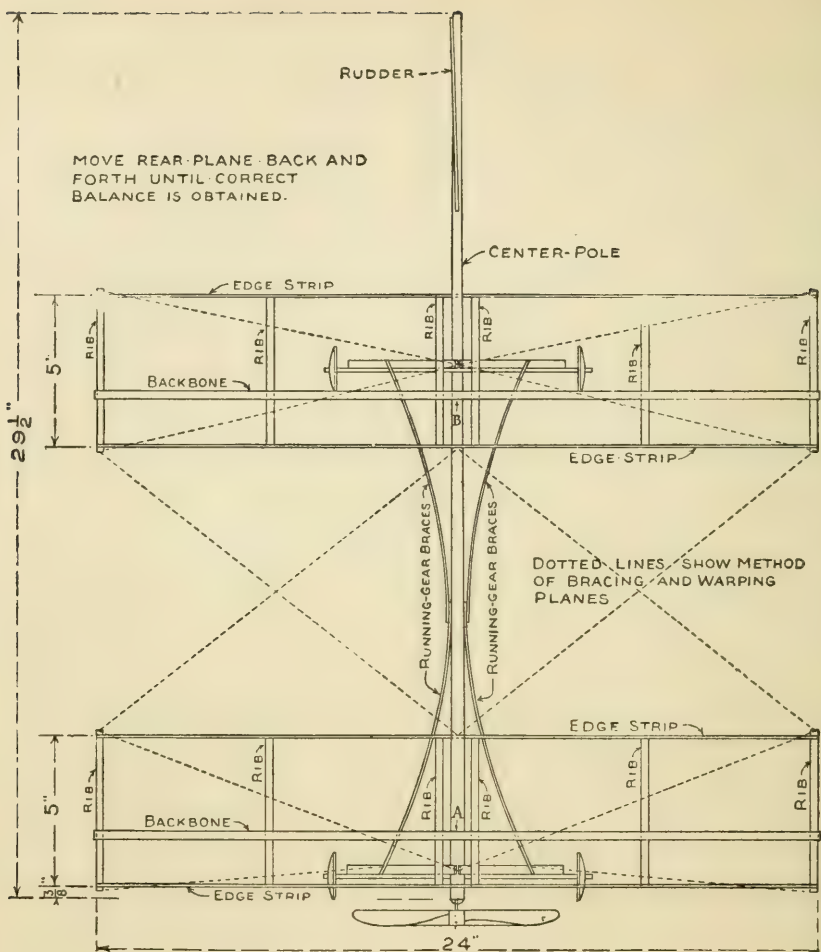
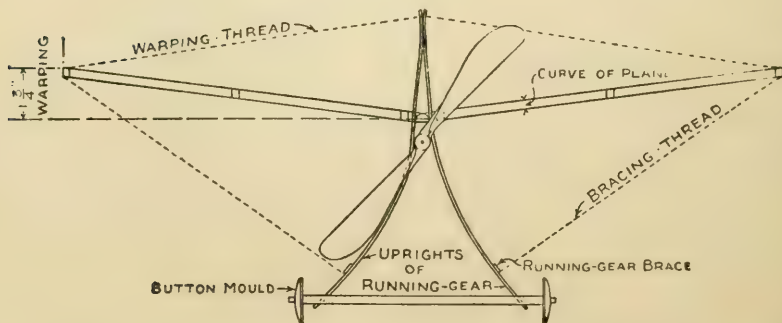
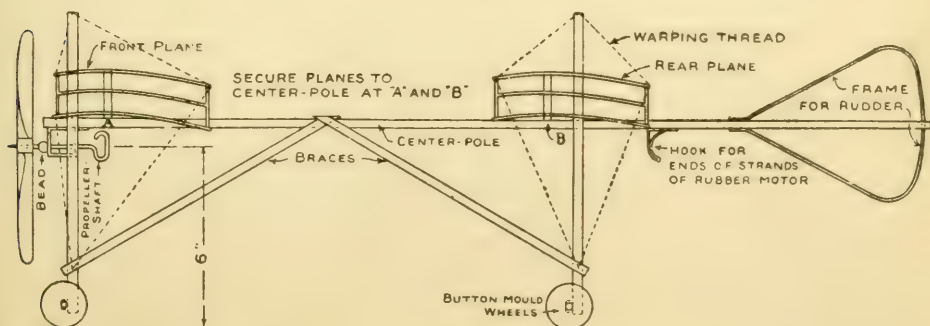
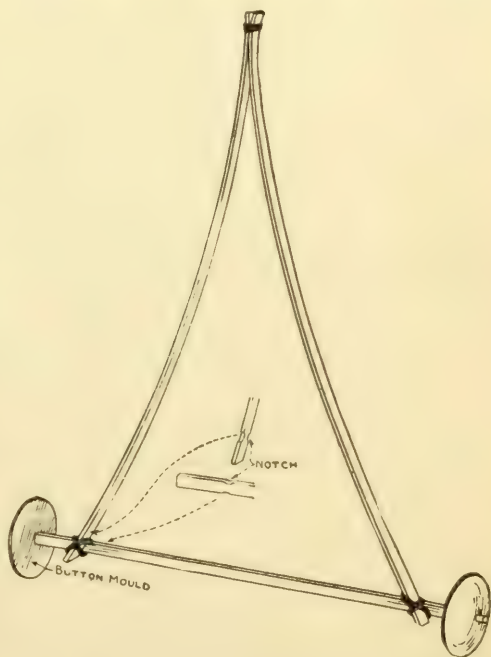

FIG. 398. — Plan or Top View.
FIG. 399. — Front Elevation of Monoplane Model shown in Fig. 397.
FIG. 400. — Side Elevation of Monoplane Model shown in Fig. 397.
FIG. 401. — Running-gear of Mono-plane shown in Fig. 397.
tioned and properly placed, working-drawings are shown to a scale of  $\frac{1}{8}$  inch to the inch; that is, the plan or top view (Fig. 398), the front elevation (Fig. 399), and the side elevation (Fig. 400) are reproduced upon the pages at such a size that  $\frac{1}{8}$  inch of the drawing on the page represents 1 inch on the model, which you will understand if you have studied the instructions in Chapter IV for making working-drawings. By placing an ordinary ruler upon the pages you will be able to tell exactly what any measurement is.
Unless you have had some experience in reading mechanical drawings, there is one thing which may puzzle you, and which I shall explain. If you look at the propeller in Figs. 398 and 399, you will see that it is shown shorter in the plan than in the front elevation; the plan does not, in this case, show the correct length, but represents the top view when the propeller is turned to the angle shown in the front elevation. It is *foreshortened* in the plan. The propeller is foreshortened in the same
way in the side elevation (Fig. 400), which shows it as it would be seen in a side view when it is turned as shown in the front elevation. As all other portions set at an angle are foreshortened in a similar manner, in all views in which you do not look squarely at them, be careful to use the drawing which shows the true length, in taking off the measurements.
**The Running-gear** consists of two triangular frames, on each of which a pair of button molds are mounted for wheels. Measure off the lengths of the strips, from the drawings, and fasten the strips together as in Fig. 401. Whittle down the ends of the axles to fit the holes in the button molds, and drive pins through them to hold the molds in place. After completing the frames, bind them to the center-pole and brace each upright with a diagonal brace, as shown in Figs. 398 and 400.
The **Shaft** is made out of a piece of stiff wire (Figs. 400 and 402). File a square taper upon the propeller end of this, so that the propeller will not turn upon it, and, after slipping it through the bearing, solder a glass bead on to it 1 inch from the end, as shown, to relieve the propeller of all motor strain. Drive the propeller on to the end of the shaft, carefully, so as to avoid the danger of splitting it. It is not necessary to clinch the end of this shaft, if you drive the propeller on to it properly; and there is an advantage in not clinching it, in the fact that the propeller can easily be removed then, in case
The hook for the rear end of the rubber motor should be bent out of a piece of brass, and be wired to the under side of the center-pole to a flattened surface, as shown in Fig. 400.
Bind the planes to the center-pole at *A* and *B* (Figs. 398 and 400), being careful in doing so to place them exactly at right angles to the pole. The rear plane will have to be readjusted, after the model has been completed, to a point which will produce a perfect balance of the machine, but the position shown is an approximate location and a good one for a first trial.